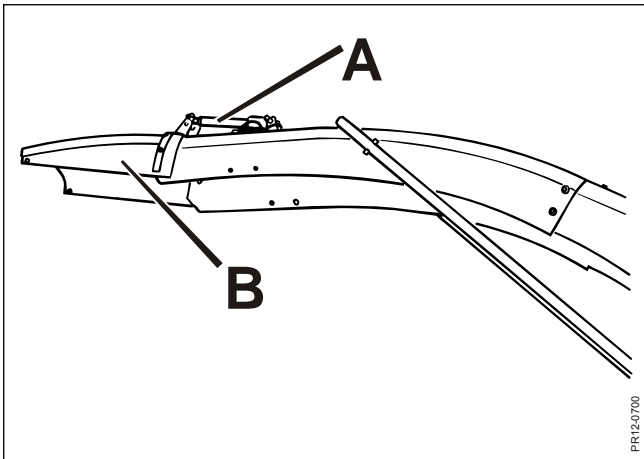

Fig. 3-11
- Fig 3-11** Mount the cable **A** in the cable holder **B** and on the cable holder **C** (fasten with strips). The cable should not be drawn too tight, it must be loose.